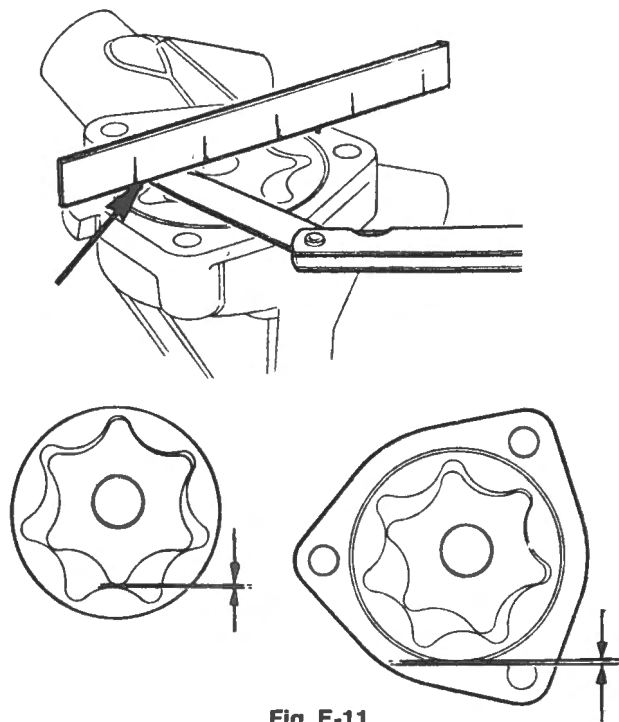

Fig. E-11
- 3 Fit the outer ring in its original running position and check the rotor lobe clearance 'B' Fig. E-11 using feeler gauges 0.089 to 0.127 mm (0.0035-0.005 in).